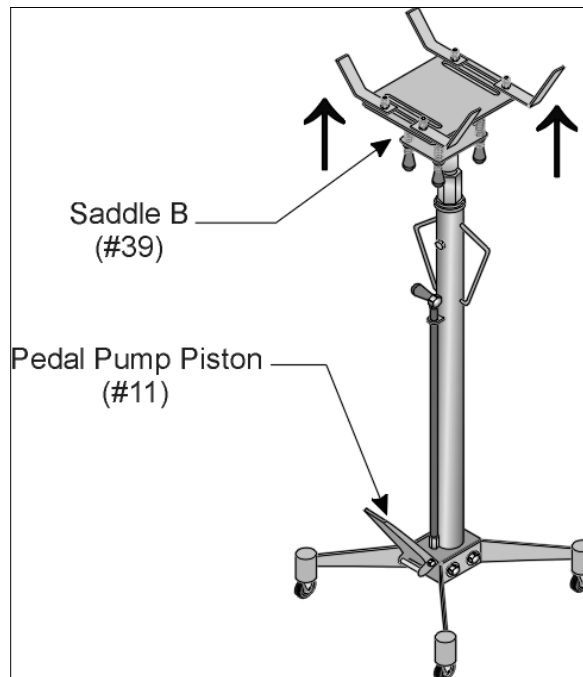

Figure 7--Raising the Saddle
Step 3: Raise the SADDLE (#40) up under the transmission by stepping on the PEDAL PUMP PISTON (#11) as shown in Figure 7.